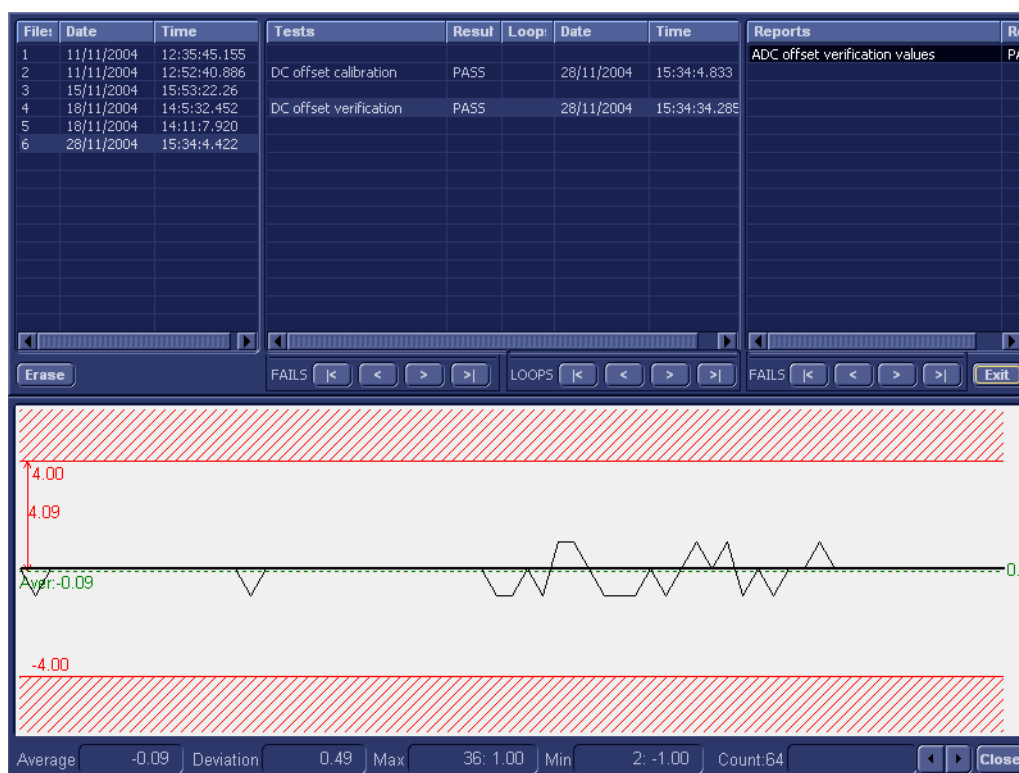

Figure 7-10 View Test Log - DC Offset Verification Test
- the View Test Log window opens automatically, listing all tests performed and showing details of which tests passed or failed, as shown in the example in Figure 7-10.
9.) Use the scroll arrows at the bottom of the Reports window (see Figure 7-10) to scroll through the channels and view the corresponding results.